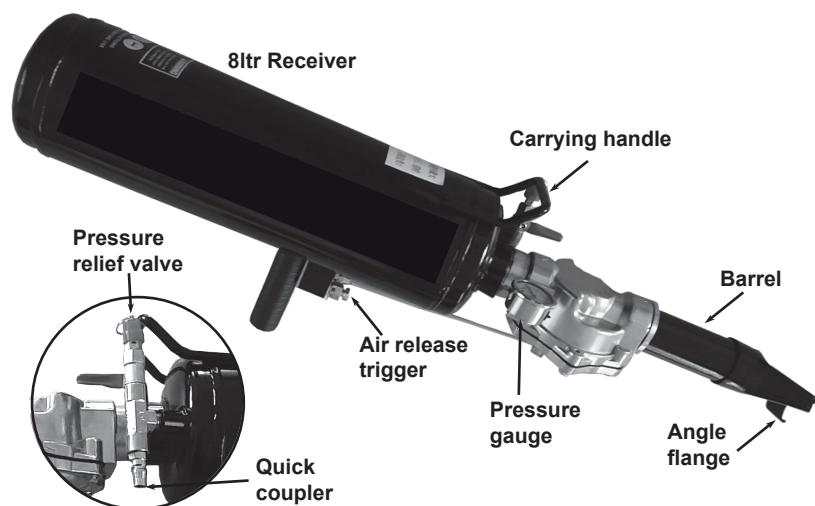

fig.1 (shown in horizontal wheel set up)
1. Fit an air coupler nipple, not supplied, to suit the available air line system into the small intake valve shown in fig.1.